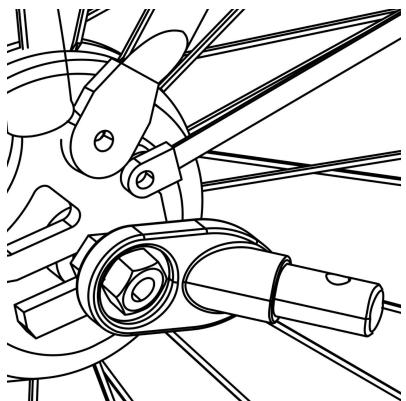

Figure 12
**2. Nutted Axle:** Unscrew the nut with washer from the left side of bike's rear axle. Install the hitch onto the axle and screw the nut back on with the washer(Figure 12).